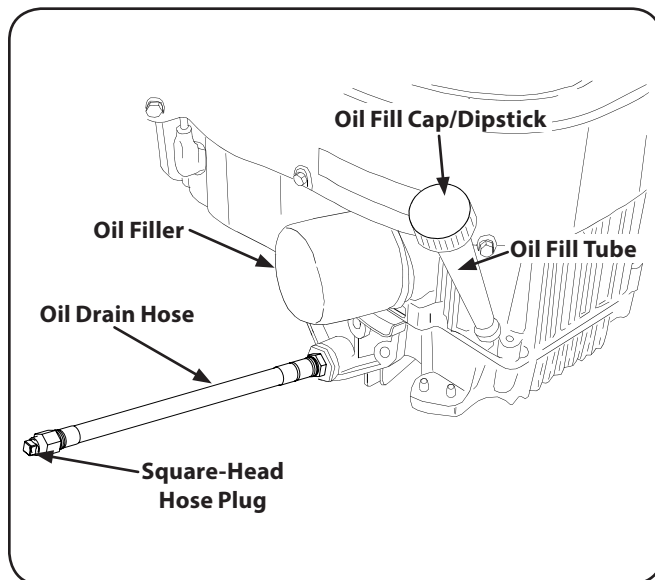

Figure 6-1
2. Locate the oil drain hose on the right side of the engine. See Figure 6-1.
4. While holding the free end of the oil drain hose over the oil collection container, unscrew the square head hose plug from the end of the hose. See Figure 6-1. Drain the engine oil into the collection container.